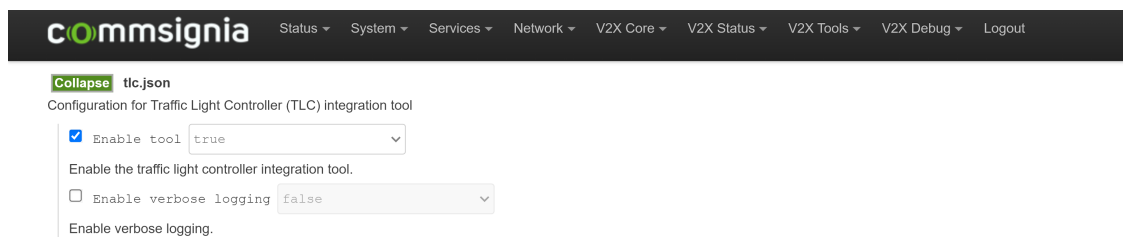

Figure 32. TLC configuration page
2. To enable the transmission of SPaT content from the connected TLC, open the **V2X Tools** → **TLC** menu, check the box near `Enable tool`, and set it to `true`, as shown in Figure 32.